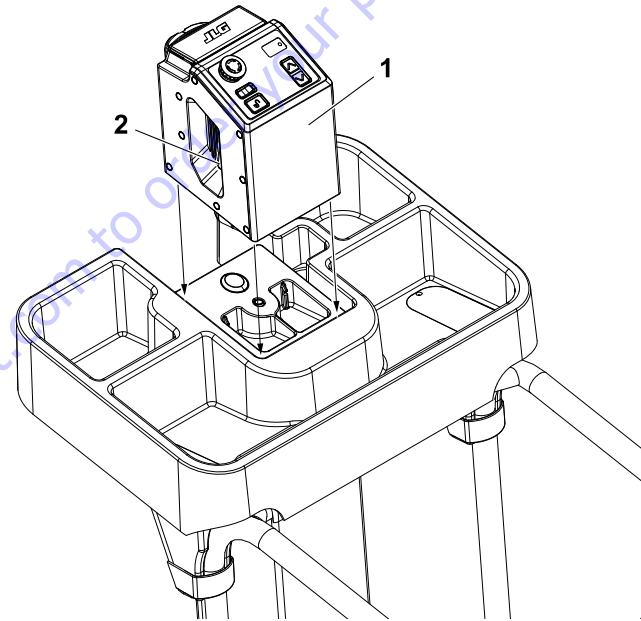
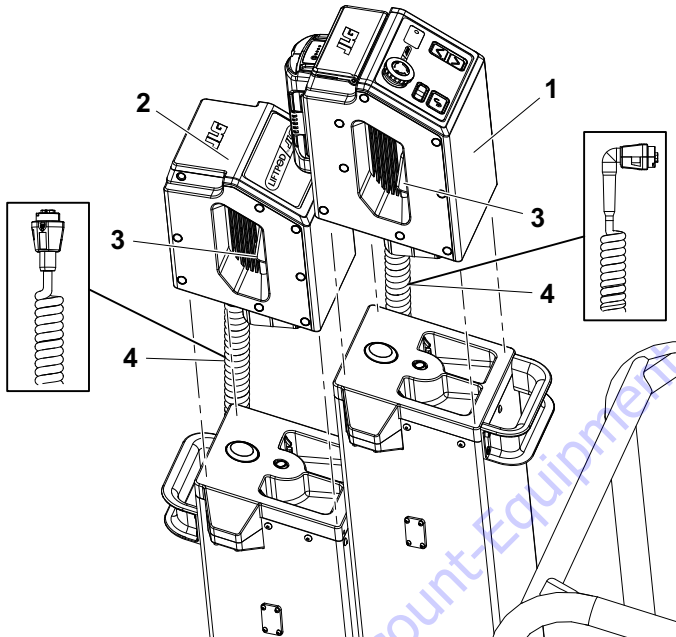

Figure 3-13. Powerpack Control Unit Installation (FT70)
Figure 3-14. Powerpack Installation (FT140)
(See Figure 3-13. and Figure 3-14. for installation, also Section 3.6 on page 3-22 for complete description of PowerPack)
1. To install the Control Unit (1) onto the top of the mast; grasp with both hands and depress the latch handles (2) on each side of the Control Unit.
2. Place the Control Unit (1) onto the top of the mast assembly and align the driveshaft bit (hexagonal), lower down until it is fully seated on the mast top cap, release the latch handles on each side.
NOTE: (See Figure 3-14.) The FT140 machines use a Control Unit (1) for the FT70 mast assembly, and Drive Unit (2) for the FT140 mast assembly. It is recommended to install the FT140 mast Drive Unit first without the tool tray installed.
3. **FT140 - Power Pack configuration:** Mount the Drive Unit and Control Unit same as step 1 and 2 above. Connect the Control Unit to the Drive Unit using the supplied connecting cable (item 4 - Figure 3-14.). Each end is connected with a twist-lock plug, push in and turn till tight.